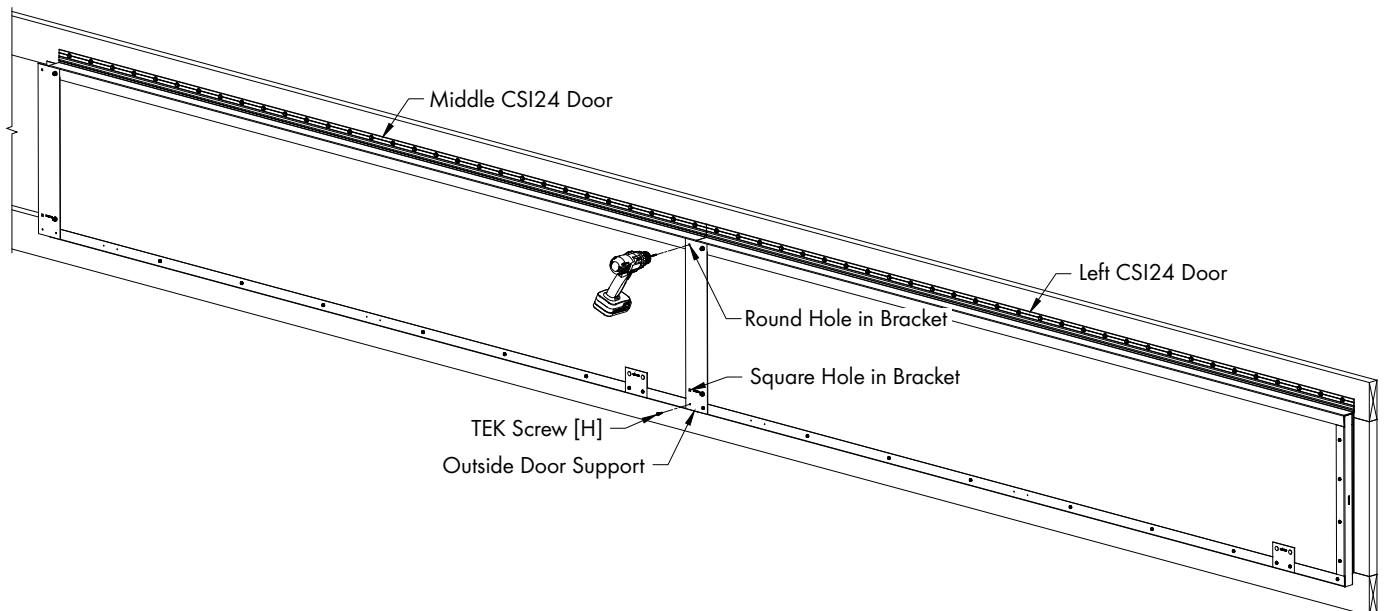

Figure 20
Secure Outside Door Support from Left Door to Middle Door using (1) TEK Screws [H]. Then using the round hole and square hole as a guide, drill (2) 3/32" holes through Middle Door. See Figure 20. Make sure the drill bit goes through straight and goes through the holes in the Inside Door support.